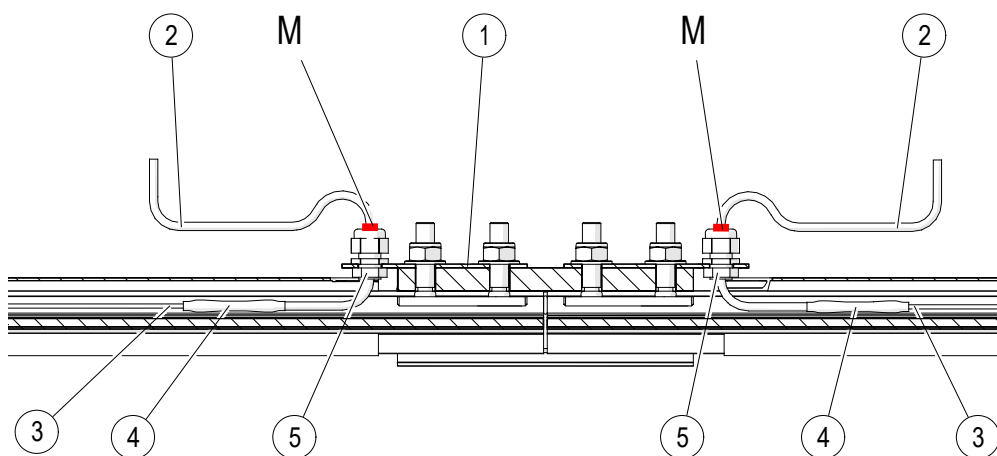

Fig. 45: Overview of the crimp connection 0813
- All infeed mounting elements for the infeed point (see also BAL0813-0007) of the heating wire are installed as described in Fig. 45. The markings (M) are rested against the top of the strain relieve (5).